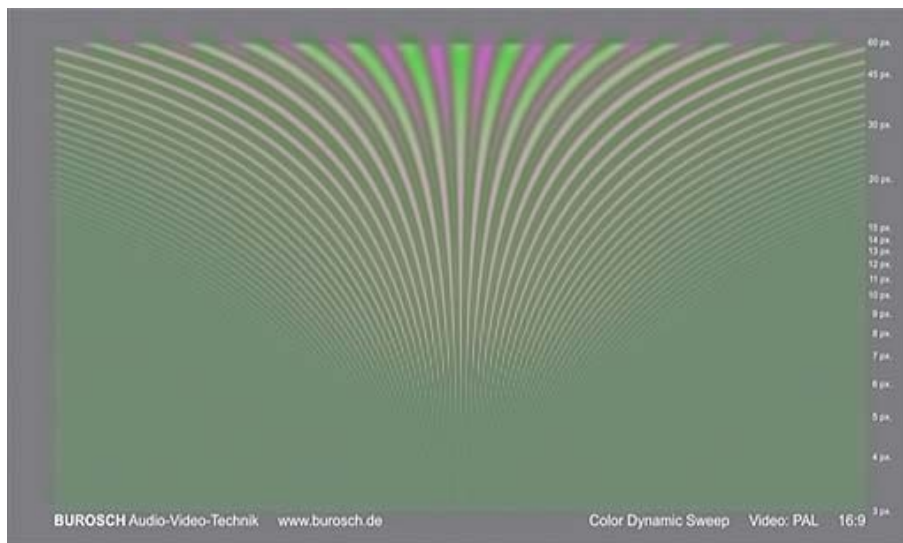

fig. 1: Only the widest part of the sweep shows clear colors – lacking color band width or deficient cabeling.
- The Dynamic Sweep is not enough focussed – lacking color band width or deficient cabeling (figure 1)